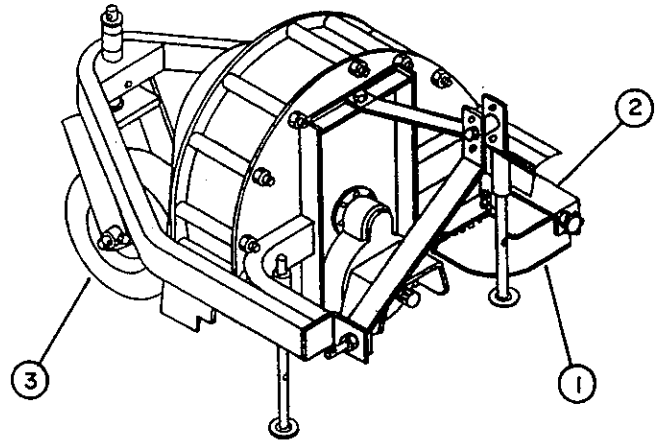

FIGURE 1
The nozzle (fig.1, item 1) can be rotated 230°. Set direction of the nozzle by turning the handle clockwise to rotate nozzle toward tractor or counterclockwise to rotate nozzle away from tractor.
Placing the toggle forward, lowers the deflector (fig.1, item 2). Placing the toggle to the rear raises the deflector. (If movements are different simply reverse actuator lead wires).
To adjust the deflector (fig.1, item 2), loosen knob, select angle and fasten knob securely.